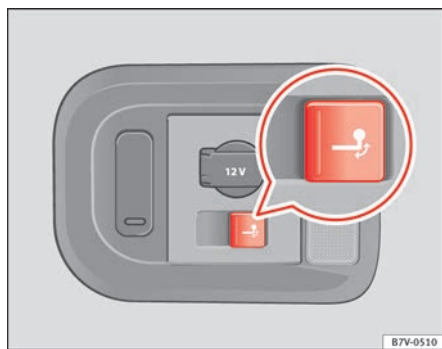

Fig. 156 Right-hand side of the luggage compartment: button to electrically release the tow hitch ball.
- Press the knob briefly ⇒ fig. 156. The tow ball is released electronically and folds out automatically; the button indicator will blink.
- Press the knob briefly ⇒ fig. 156. The tow ball is electronically released; the indicator blinks.